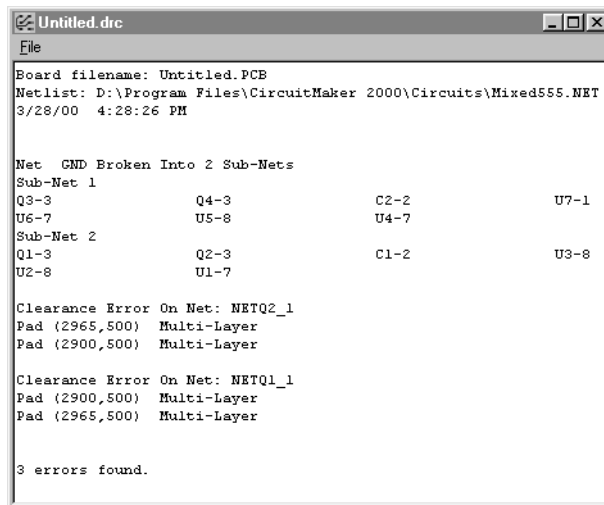

Figure 7.10. The .DRC file lists the errors that the Design Rules Check feature finds.
- 4 If you are saving the file, select **Show saved file** to display the contents of the file after the check has finished. Figure 7.10 shows an example .DRC file.